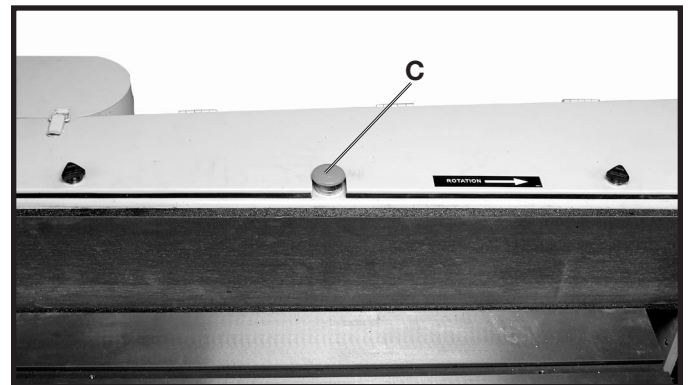

Fig. 32
There is a stop button located at the top of the belt cover. To stop the machine, push the red stop button (C) Fig. 32.